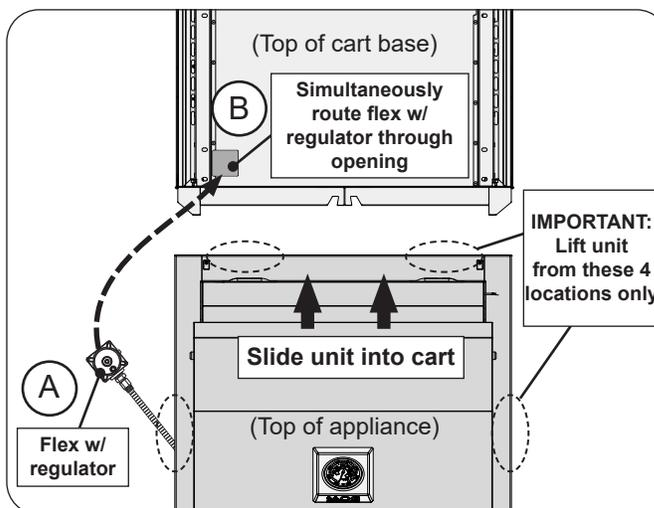

Fig. 10-3 Begin appliance installation
DO NOT lift the unit from the front panel when installing. Lift only from the designated areas shown on Fig. 10-3.
1. Using 2 people minimum, carefully lift and place the rear end of the appliance over the cart opening and begin to slide the unit inward. **DO NOT SLIDE THE UNIT IN COMPLETELY!** While installing (Fig. 10-3, A), be sure to simultaneously route the flex connector with regulator downward through the rectangular opening on the front left portion of the cavity floor. See Fig. 10-3, B.
Note: Only lift the appliance from the locations indicated on Fig. 10-3. Do not lift the unit from the front panel.